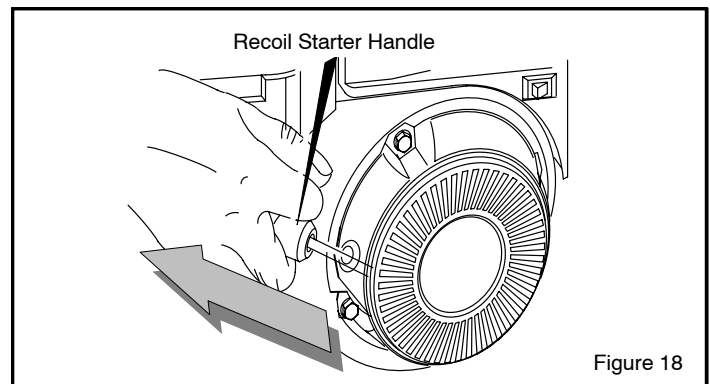

Figure 18
6. **(RECOIL START)** Pull starter handle (Figure 18) rapidly, and allow to rewind slowly while maintaining firm grip on handle.